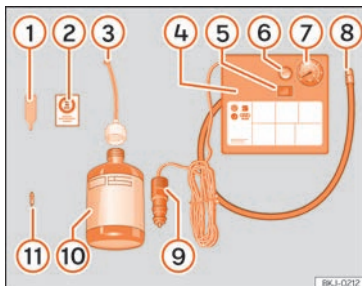

Fig. 68 Standard display: contents of the anti-puncture kit.
- Unscrew the tyre valve cap and insert. Use the **»» Fig. 68 ①** tool to remove the insert. Place it on a clean surface.
- Shake the tyre sealant bottle vigorously **»» Fig. 68 ⑩**.
- Screw the inflator tube **»» Fig. 68 ③** into the sealant bottle. The bottle's seal will break automatically.
- Remove the lid from the filling tube **»» Fig. 68 ⑤** and screw the open end of the tube into the tyre valve.
- Place the insert back into the tyre valve using the tool **»» Fig. 68 ①**.
- Screw the compressor tyre inflator tube **»» Fig. 68 ⑧** into the tyre valve.
- Check that the air bleed screw is closed **»» Fig. 68 ⑥**.
- Insert the connector **»» Fig. 68 ⑨** into the vehicle's 12-volt socket **»» page 157**.
- Turn the air compressor on with the ON/OFF switch **»» Fig. 68 ⑤**.
- Attach the sticker **»» Fig. 68 ②** to the instrument cluster, within the driver's visual field.